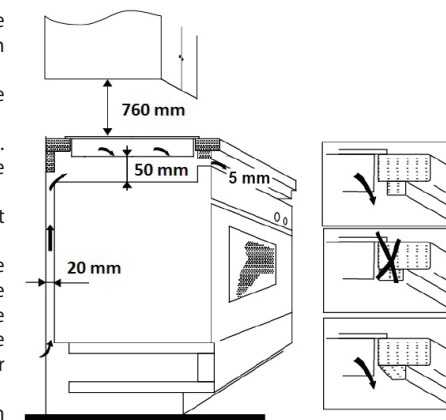

Fig. 6
5. A separate cabinet without a cooking hood should be at least 760 mm above the hob (Fig. 6).
6. For sufficient air circulation the appliance needs to be installed as shown in Fig. 6 and the cabinet must be designed so that the air can flow at the bottom. Make sure that the ventilation space of 20 mm, between the drawer and the rear wall and 50 mm between the drawer and the hob, is free (Fig. 6).